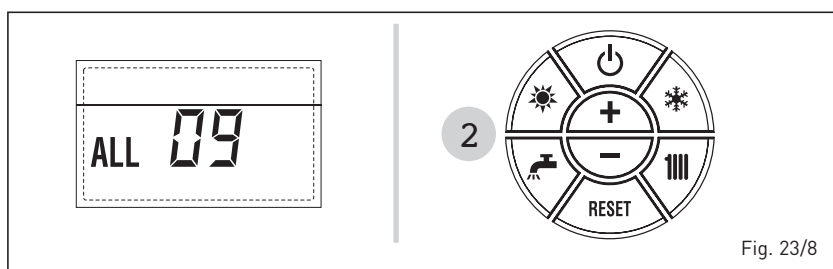

Fig. 23/8
– AUXILIARY SENSOR ANOMALY ALARM 10 (fig. 23/9)